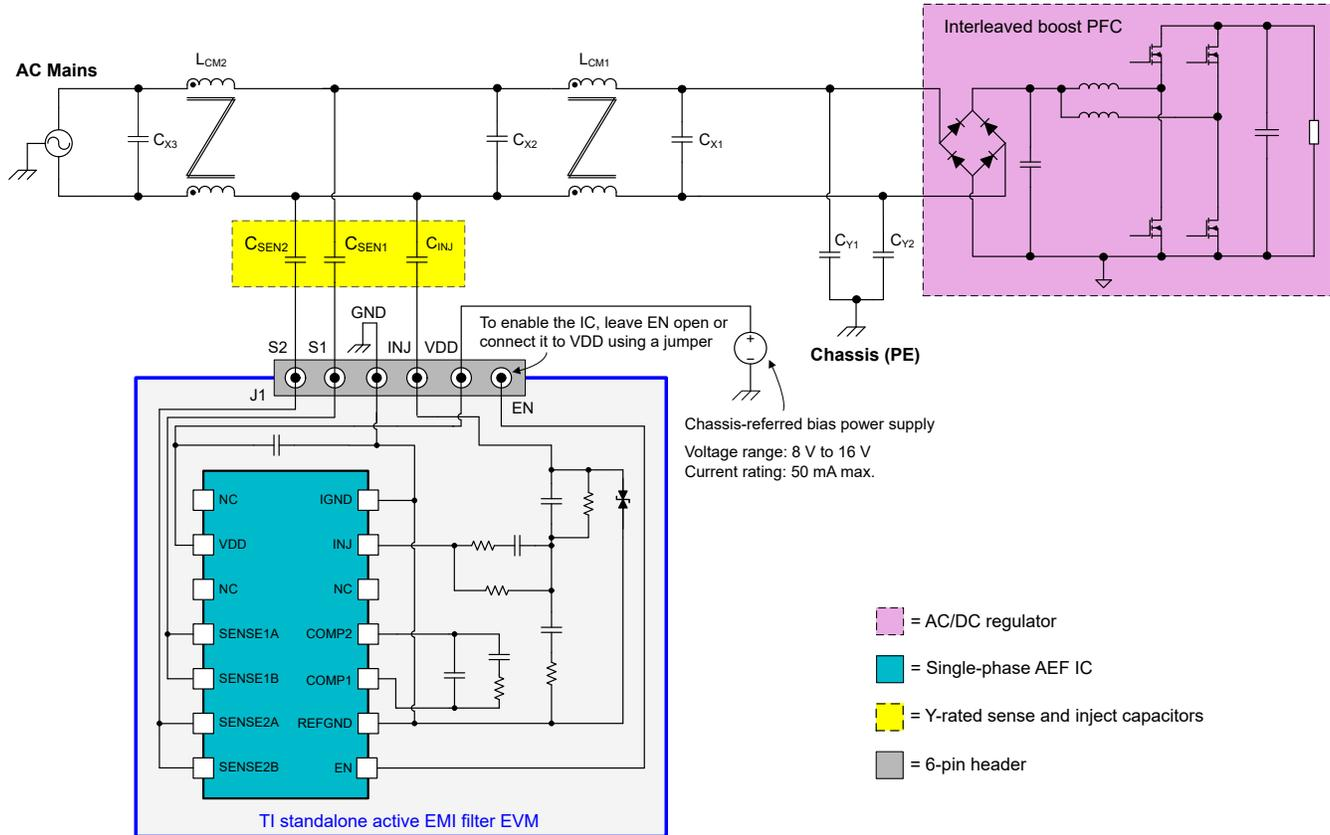

Figure 4-1. EVM Setup Schematic
Referencing the header connections described in Table 4-1, use the recommended setup from the schematic of Figure 4-1 to evaluate the performance of the TPSF12C1-Q1, where the EVM daughter-card mounts to the main EMI filter solution. The AEF circuit effectively replaces the two Y-capacitors normally placed between the CM chokes (and tied to chassis ground) in a conventional 2-stage, 4th-order CLCL passive CM filter design.^{(1) (2)}
An interleaved boost PFC topology in Figure 4-1 represents a typical single-phase AC/DC regulator and is drawn here for illustrative purposes. The setup is essentially agnostic to regulator topology.
As illustrated in Figure 4-1, a 6-pin right-angle header, part number TSW-106-08-G-S-RA, connects the EVM to a corresponding female receptacle, part number SSW-106-01-G-S, which mounts on the EMI filter board that
Connect S1 and S2 to the two voltage sense capacitors, designated as C_{SEN1} and C_{SEN2} in Figure 4-1. Connect the opposite terminals of the sense capacitors to the LIVE and NEUTRAL lines between the CM chokes, L_{CM1} and L_{CM2} . Connect INJ to the inject capacitor, C_{INJ} , whose opposite terminal then connects to either the LIVE or NEUTRAL line as shown. The X-capacitor at this position, designated as C_{X2} in Figure 4-1, sets a low impedance between the power lines from a CM standpoint – this means that a single inject capacitor is adequate for AEF current injection. Finally, connect a nominal 12-V bias supply from VDD to GND to power the AEF circuit.